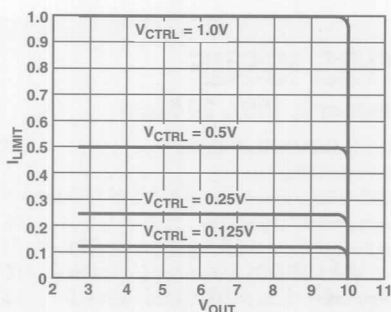
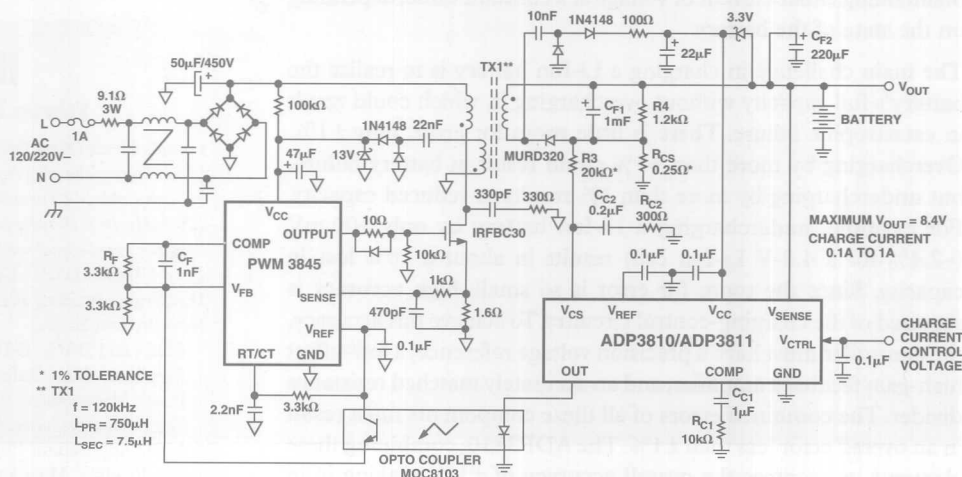

Figure 2. Current/Voltage Transition of the ADP3810 CCCV Charger
Figure 3. Complete Off-Line Li-Ion Battery Charger
As the battery approaches its final voltage, the inputs of GM2 come into balance. Now GM2 pulls the COMP node high and the output current increases, causing the charge current to decrease, maintaining VSENSE and VREF equal. Control of the charging loop has changed from GM1 to GM2. Because the gain of the two amplifiers is very high, the transition region from current to voltage control is very sharp, as Figure 2 shows. This data was measured on a 10-V version of the off-line charger of Figure 3.
**Complete Off-Line Li-Ion Charger:** Figure 3 shows a complete charging system using the ADP3810/3811. This off-line charger uses the classic flyback architecture to create a compact, low cost design. The three main sections of this circuit are the primary-side controller, the power FET and flyback transformer, and the secondary-side controller. This design uses an ADP3810, directly connected to the battery, to charge a 2-cell Li-Ion battery to 8.4 V at a programmable charge current from 0.1 to 1 A. The input range is from 70 to 220 V ac—for universal operation. The primary side pulsewidth modulator used here is the industry-standard 3845, but other PWM components could be used. The actual output